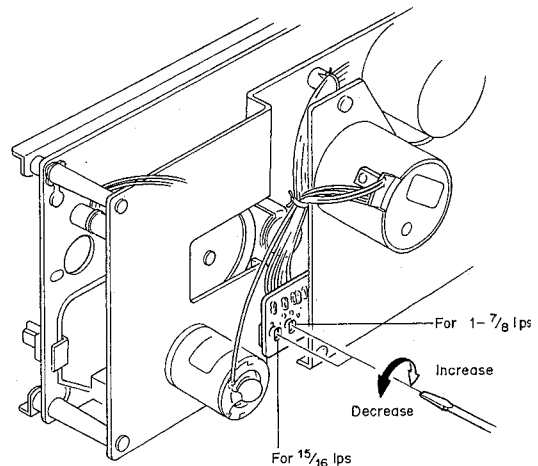

Fig. 5.3
(1) Standard Speed (1-7/8 ips)
- (d) Referring to Fig. 5.3, adjust the Tape Speed Adjustment Volume VR407 on the Speed Cal. P.C.B. to obtain 3,000 Hz on the Frequency Counter.
(2) Half-Speed (15/16 ips)
- (d) Referring to Fig. 5.3, adjust the Tape Speed Adjustment Volume VR408 on the Speed Cal. P.C.B. to obtain 1,500 Hz on the Frequency Counter.